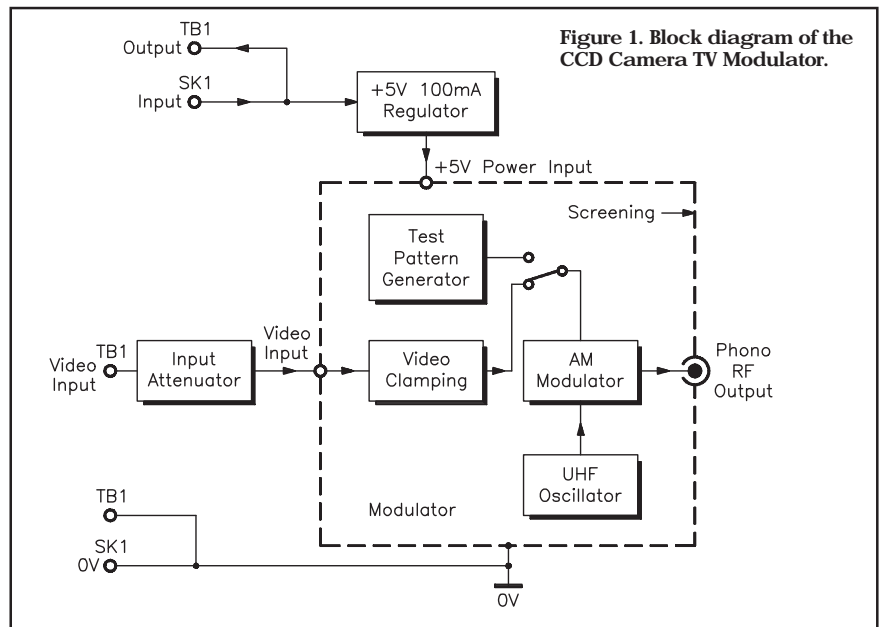

Figure 1. Block diagram of the CCD Camera TV Modulator.
Refer to the Modulator block and circuit diagrams, shown in Figures 1 and 2, respectively. These should assist you when following the circuit description or during fault-finding of the completed unit, should this be necessary. The regulated DC power is applied to the Modulator via the jack socket SK1. This supply must be within the range of 10.5 to 17V DC (regulated), since this also feeds the CCD camera module itself, which is an expensive item to replace should excessive voltage be applied – so do not exceed the maximum voltage! To prevent reverse polarity damage, diode D1 is included.
As can be seen from the block diagram of Figure 1, all the main signal processing circuits are contained within the UHF modulator block MD1. All the stages are powered from a common +5V supply, RG1, with the 0V ground connection made to its metal screening can. The incoming video information is first passed through a signal clamping circuit. This is to ensure that if overdriven, the RF output of the modulator will not completely break up. The video information is then applied to an amplitude modulator (AM) stage, which receives the output from a RF oscillator running at a frequency of approximately 591.5MHz (TV channel 36). Now that the video signal has been superimposed onto the RF carrier, it can be outputted, via